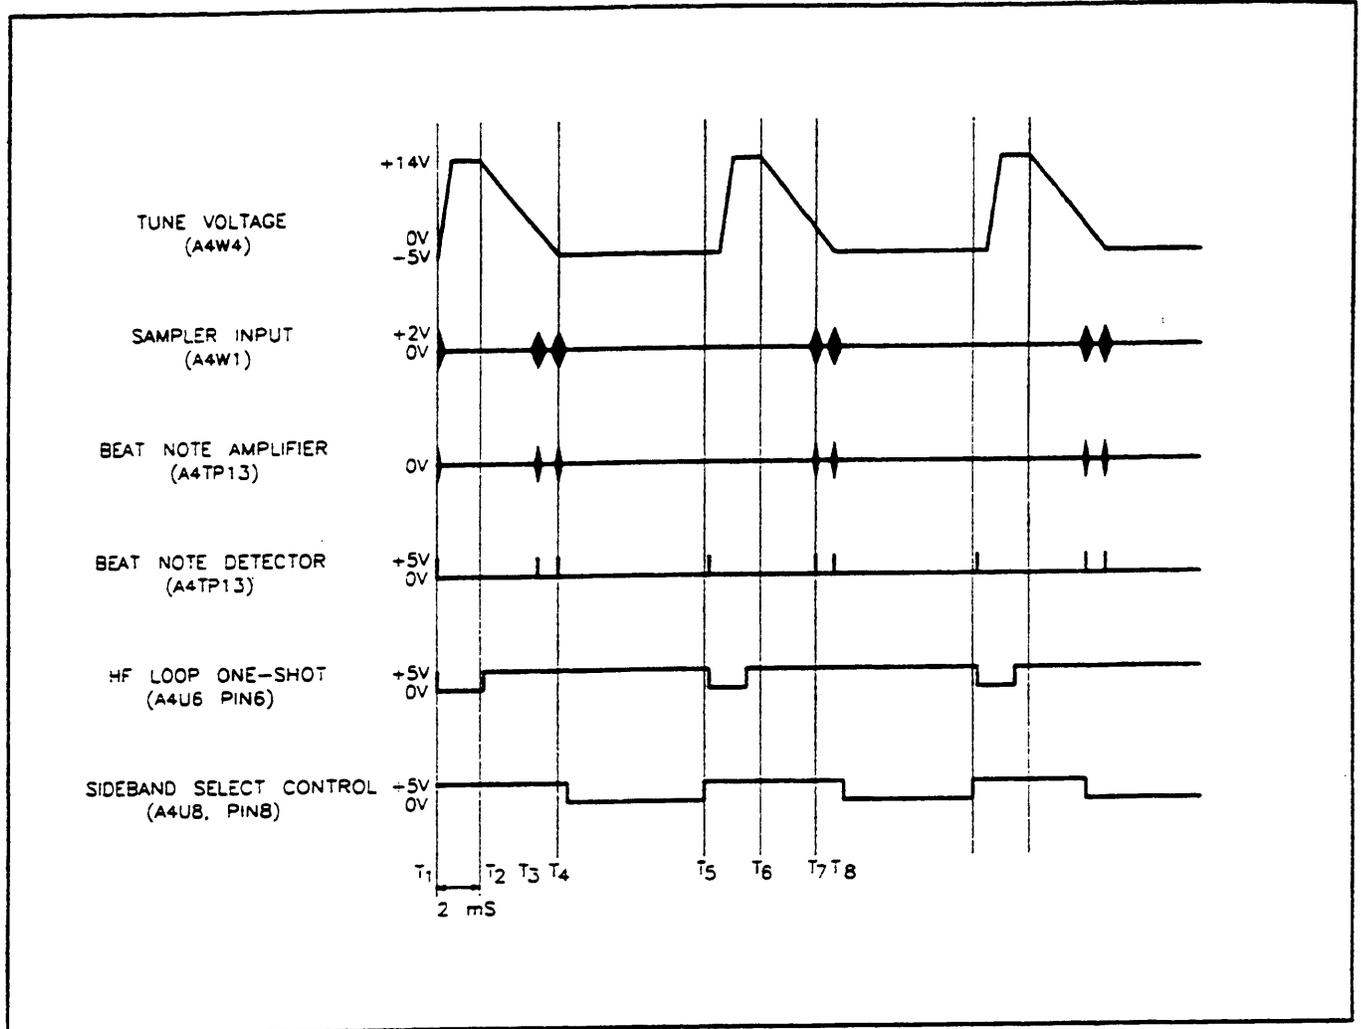

Figure 1. High Frequency Loop Control Timing Diagram.
A High Frequency Loop Lock cycle is started by the SDA input from the Microprocessor Assembly or the Out-Of-Lock Detector by triggering the High Frequency Loop One-Shot. The High Frequency Loop One-Shot output pulse causes the Side Band Select Control and Loop Amplifier Ramp Control to ramp the Loop Amplifier to its Maximum voltage. When the High Frequency Loop One-Shot times out, the Loop Amplifier voltage will ramp down. As the voltage ramps down, the High Frequency Loop VCO's frequency will sweep from high, 1040 MHz, to low, 520 MHz. During this sweep, the VCO's frequency will pass through a valid High Frequency Loop lock point. At the lock point, the Sampler will output a beatnote. The beatnote is amplified and detected by the Beatnote Detector. The Beatnote Detector outputs a clock pulse to the Side Band Select Control to terminate the Loop Amplifier's voltage ramp at the lock point. See Figure 1.
When the VCO frequency is swept over its frequency range and a lock point is encountered, a beatnote will be generated by the Sampler. The beatnote starts out as a high frequency sine wave that decreases in frequency and increases in amplitude. See Figure 1, High Frequency Loop Control Timing Diagram. The beatnote from the sampler is amplified by the Beatnote Amplifier, U3, and is applied to the Beatnote Detector, U7C.
3. Set the Signal Generator's Frequency to 550 MHz. See Figure 1, High Frequency Loop Control Timing Diagram.
The High Frequency Loop VCO is to lock at a frequency of 550 MHz. The sideband select data bit at pin 1 of Shift Register U5 is high. The loop is to lock on the lower sideband. The 150 MHz Notch Filter is not selected, and the 150 MHz IF is passed to the Sampler. The other IFs are filtered out by the Notch Filters selected. The input frequency to Mixer A4U1 is 700 MHz. See Figure 1. At time T1, the SDA data bit triggers the High Frequency One-Shot U6. The Loop Amplifier's output voltage at W4 is ramped high and remains high until U6 times out at time T2. The VCO's frequency has been swept high, 1040 MHz. At time T2, the VCO tune voltage and frequency starts to ramp down. At time T3, the VCO's frequency is 850 MHz. The IF is 150 MHz, $850 - 700 = 150$, and a beatnote is received from the Sampler. The beatnote is amplified and detected by the Beatnote Detector. The Beatnote Detector sends a birdie pulse to clock the Side Band Select Control. The loop would lock